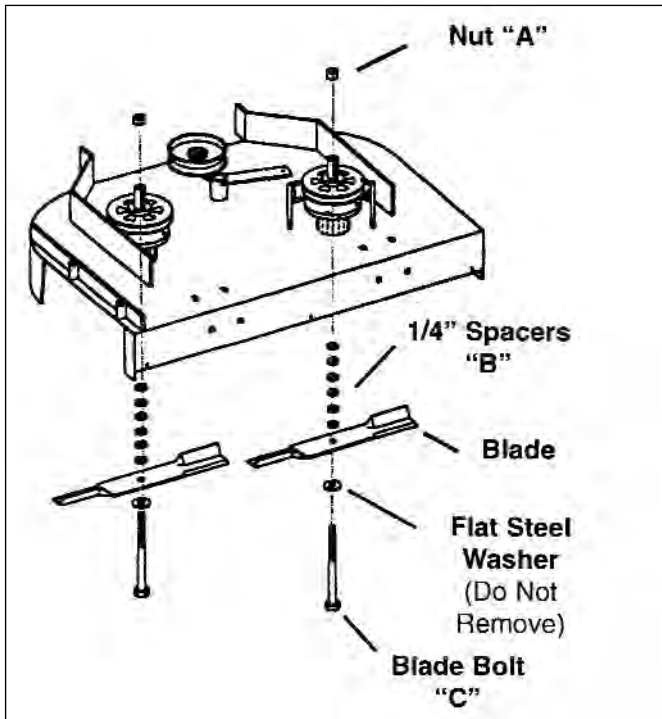
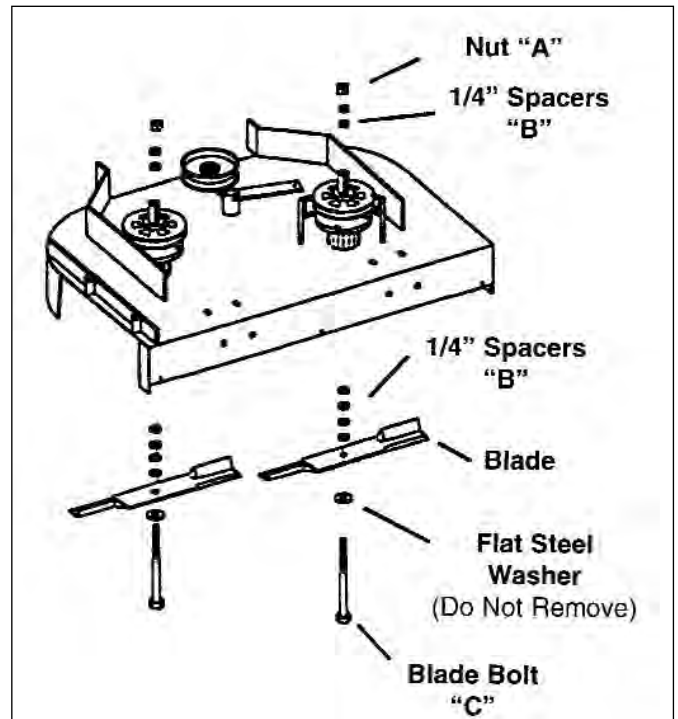

Figure 10
Figure 11
3. Using two (2) 15/16" box end wrenches, use one wrench to loosen nut "A" while holding blade bolt "C" with the other wrench (Figure 10).
Example: If the height of cut needs to be raised 1/2", move two (2) of the 1/4" spacers "B" on each blade from underneath the mower (Figure 10) to the top of the mower (Figure 11).